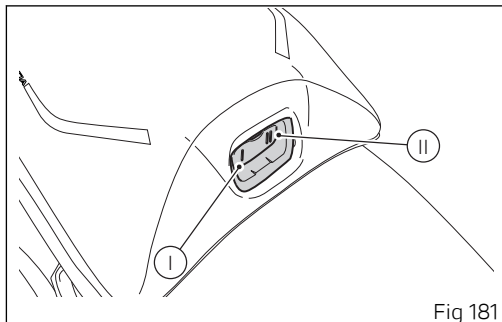

Fig 181
- position (I, Fig 181) to set the level to "Low";
- position (II, Fig 181) to set the level to "High".